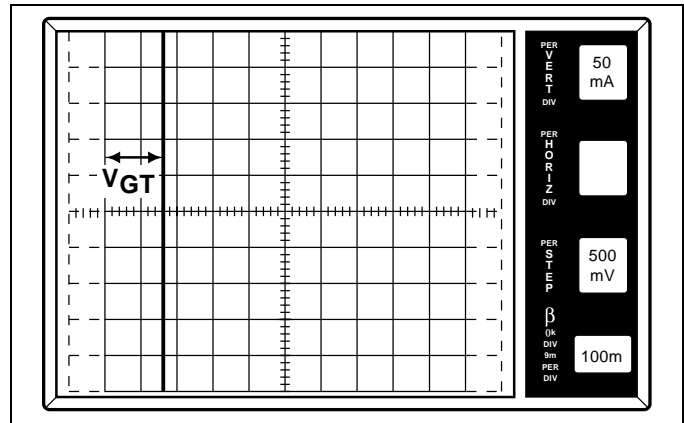

Figure 19.14  $V_{GT}$  in QI is 780mV
3. Gradually increase *Offset Multiplier* until device reaches conduction point (See Figure 19.14.) Measure  $V_{GT}$  by following horizontal axis to the point where the vertical line passes through the axis. This measured value will be  $V_{GT}$ .